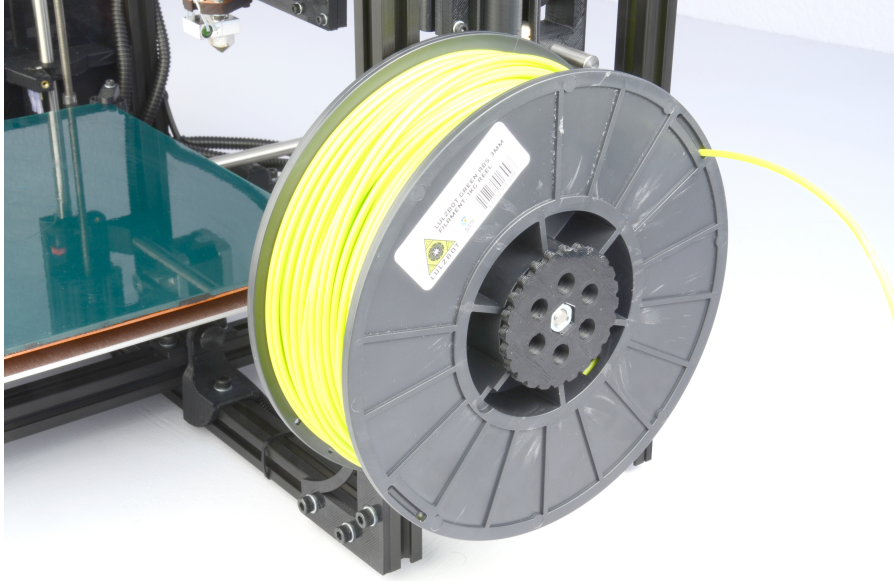

Figure 4.2: Filament spool mount front
2. Thread the reel spindle through the reel into the rear reel mount on the lower right hand side of the TAZ 3D Printer (fig. 4.2, page 89). Turn the spindle handle clockwise until it snugs up against the reel and then turn it back one quarter of a turn. This will allow the reel to easily turn but not turn too freely that it would allow the filament to unravel.
5. When changing filament, slide the opposite end of the filament through one of the holes in hub of the filament reel. This will keep the filament from unwinding from the reel (fig. 4.2, page 89).